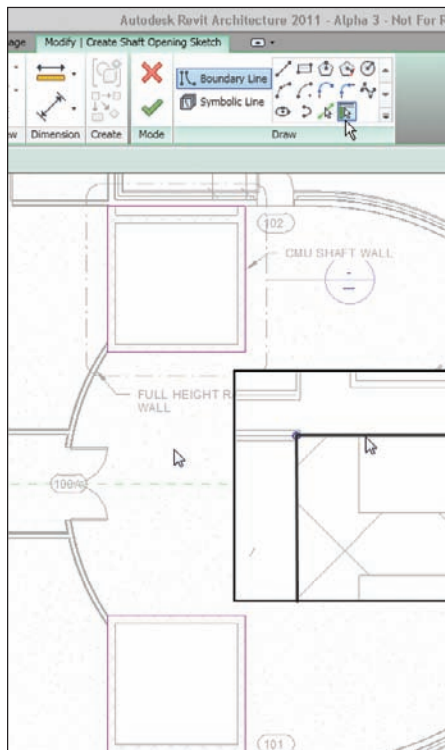

FIGURE 6.55 Adding the magenta lines to form the shaft opening to the outside of the CMU walls
3. On the Modify | Create Shaft Opening Sketch tab, click Pick Walls, as shown in Figure 6.55.
4. Pick the walls shown in Figure 6.55. Notice that you can have more than one shaft opening in the same command.
6. Use the Trim command to clean up any corners (see Figure 6.55).